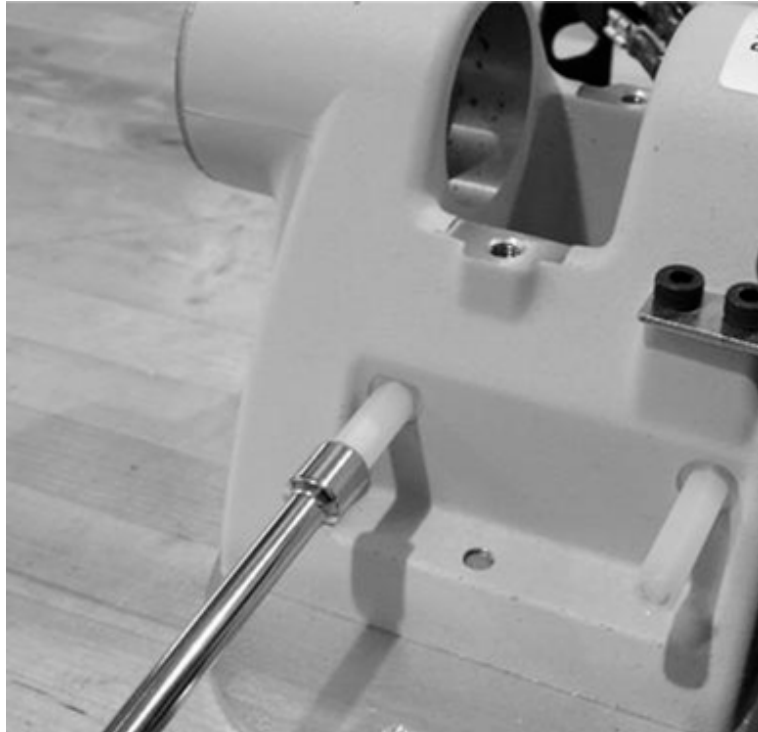

Figure 11: Attaching the Plastic Standoffs to the Casting
15. Use a 6 mm nut driver to attach the Plastic Standoffs to the Casting as shown on Figure 11.